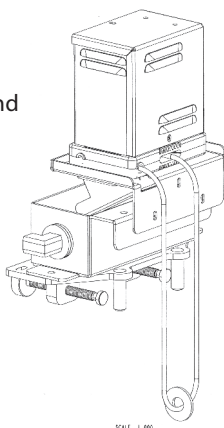

Fig 2.
2. Determine the correct hole pattern using Figure 2.